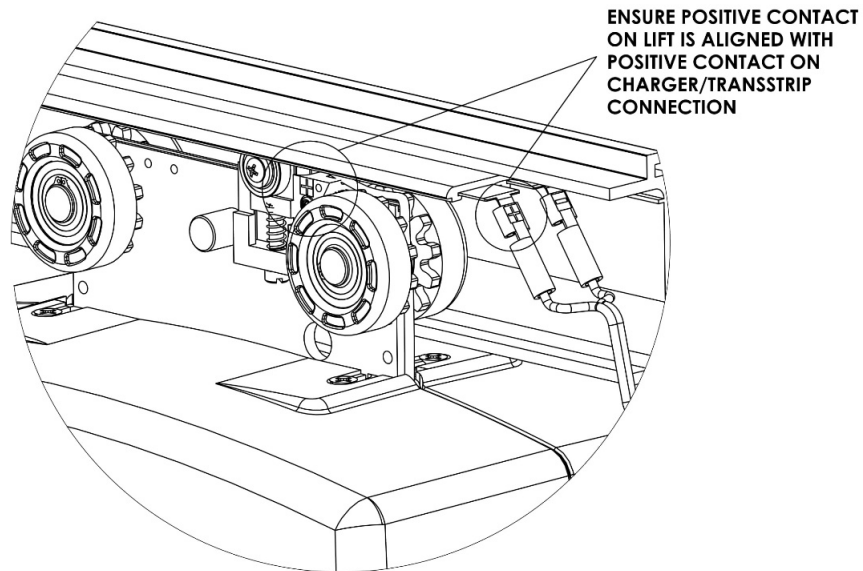

Figure 315: **Make Sure the Connections Match**
- Note the position of the black wire connection and make sure it matches the Omni charging contact on the ceiling lift, as shown in Figure 315.